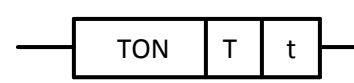

Figure 2.8 TON Symbol
1. LOAD for input to be inserted is called the beginning of a programming. The LD instruction refers to the switches in conventional circuit functioned as the breaker and connector of supply to load or also, to activate the subsequent instruction, such as timer counter or the other functions. The symbol of LOAD itself is presented in Figure 2.8.